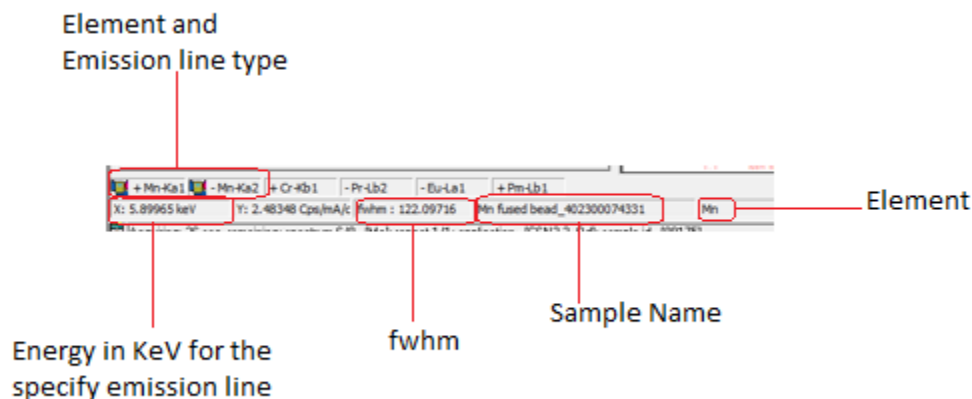

Figure 3: Resolution test information.
9. Check the fwhm value in the lower left corner, see Figure 3.